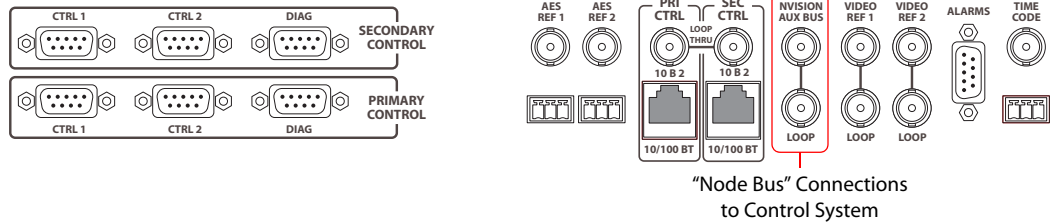

Figure 3-10. GSC Node Bus Connection to Control System (Rear View)
- 1 Locate the GSC Node Bus connection on the rear of the router, as shown in Figure 3-10. The GSC Node Bus connection is labeled 'NVISION AUX BUS'.